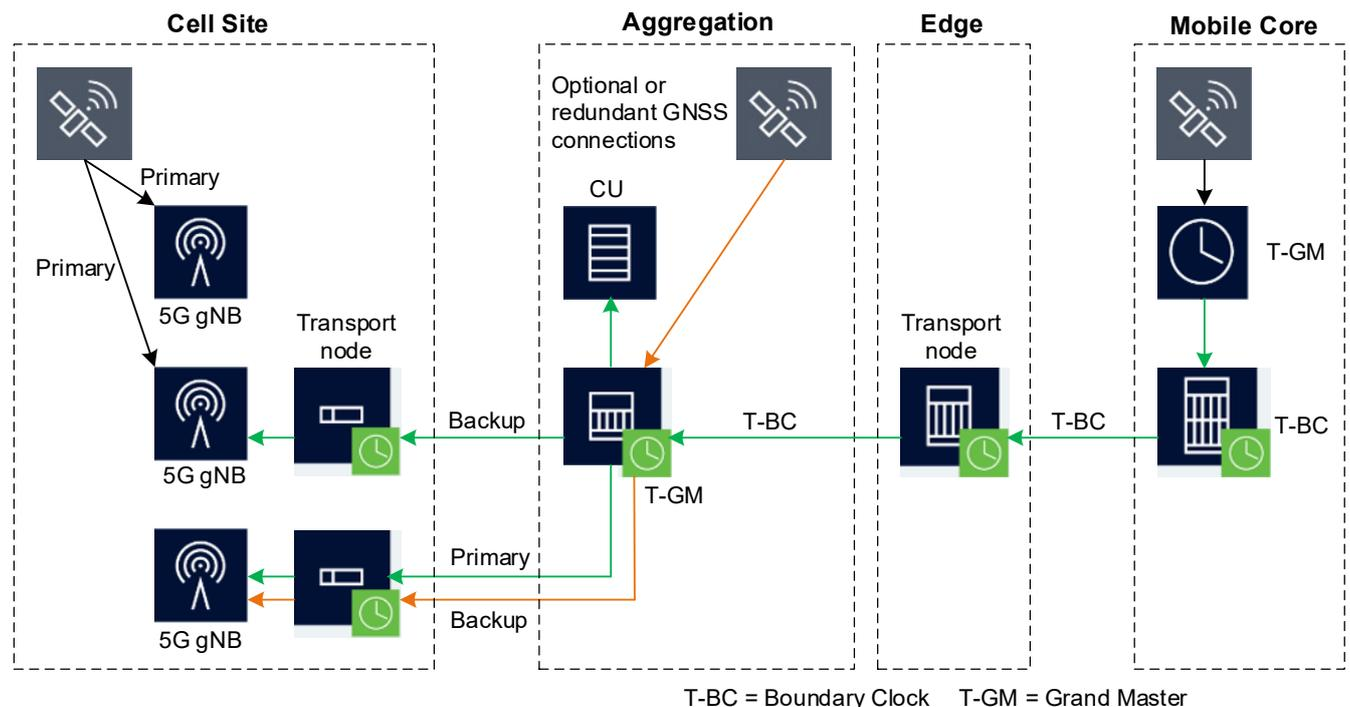

Figure 3. 5G Transport Synchronization
- Figure 3. 5G Transport Synchronization4